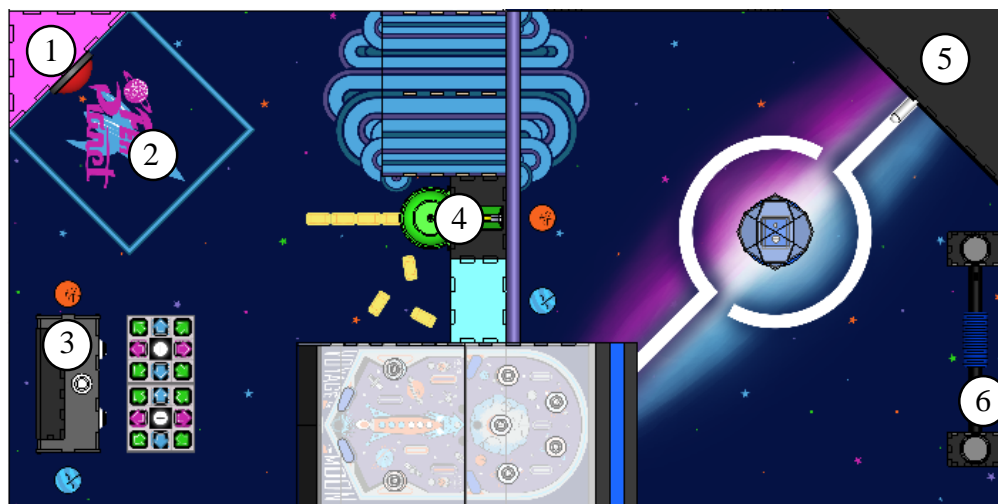

Figure 1: Overhead view of one section of the course.
To choose the best robot, a research team at The Ohio State University has constructed a scale model of the FEH Planet Arcade, hereafter referred to as “the course,” for the testing of each robot prototype. An overhead view of the course can be seen in Figure 1 below. This simulation involves various tasks that would likely be required of the robot.
- Once the arcade staff have cleaned the arcade and left the building, the robot must begin to prepare the arcade for opening the next day. A signal light will be used to alert the robot that all staff have departed and that preparations can begin. This light is at Location 2 in Figure 1. To avoid interfering with the clean-up crew, the robot may not start before the light is activated.